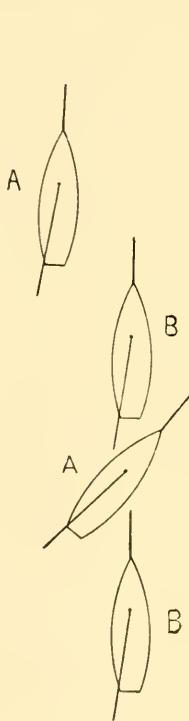

FIG. 66.
Question : (1) A. and B. are both reaching on starboard tack. B. is overtaking A., meaning to pass her to windward (Fig. 66).
(1) When B.'s bowsprit overlaps A.'s counter by (say) 1 yard, A. luffs across B.'s bow, and a collision follows.